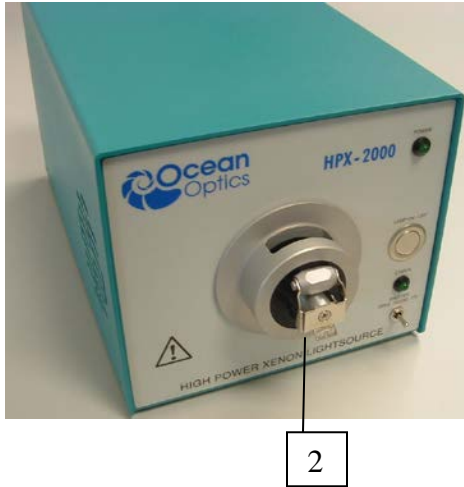
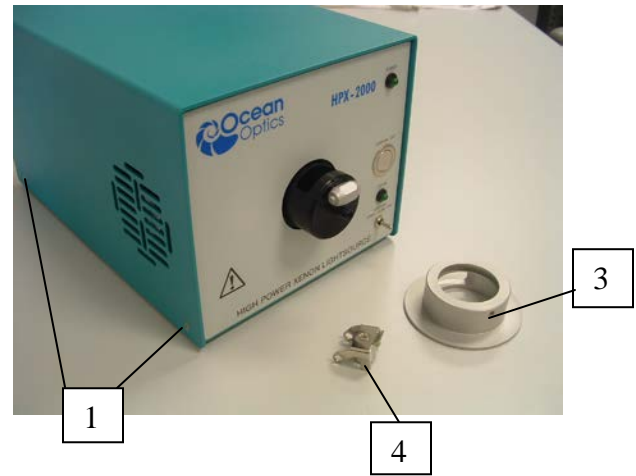

Figure 1
Figure 2
3. Rotate the cap (Figure 2, #3) until the round hole is at the bottom and a screw (Figure 1, #2) becomes visible.
5. Remove the cap (Figure 2, #3) and the beam cover (Figure 2, #4) from the HPX-2000.
6. Remove the four recessed screws (Figure 2, #1), both front and back on both sides of the HPX-2000.
10. Close the housing and screw the 4 screws (Figure 2, #1) into the sides of the housing.
11. Replace the cap (Figure 2, #3) and the beam-cover (Figure 2, #4).